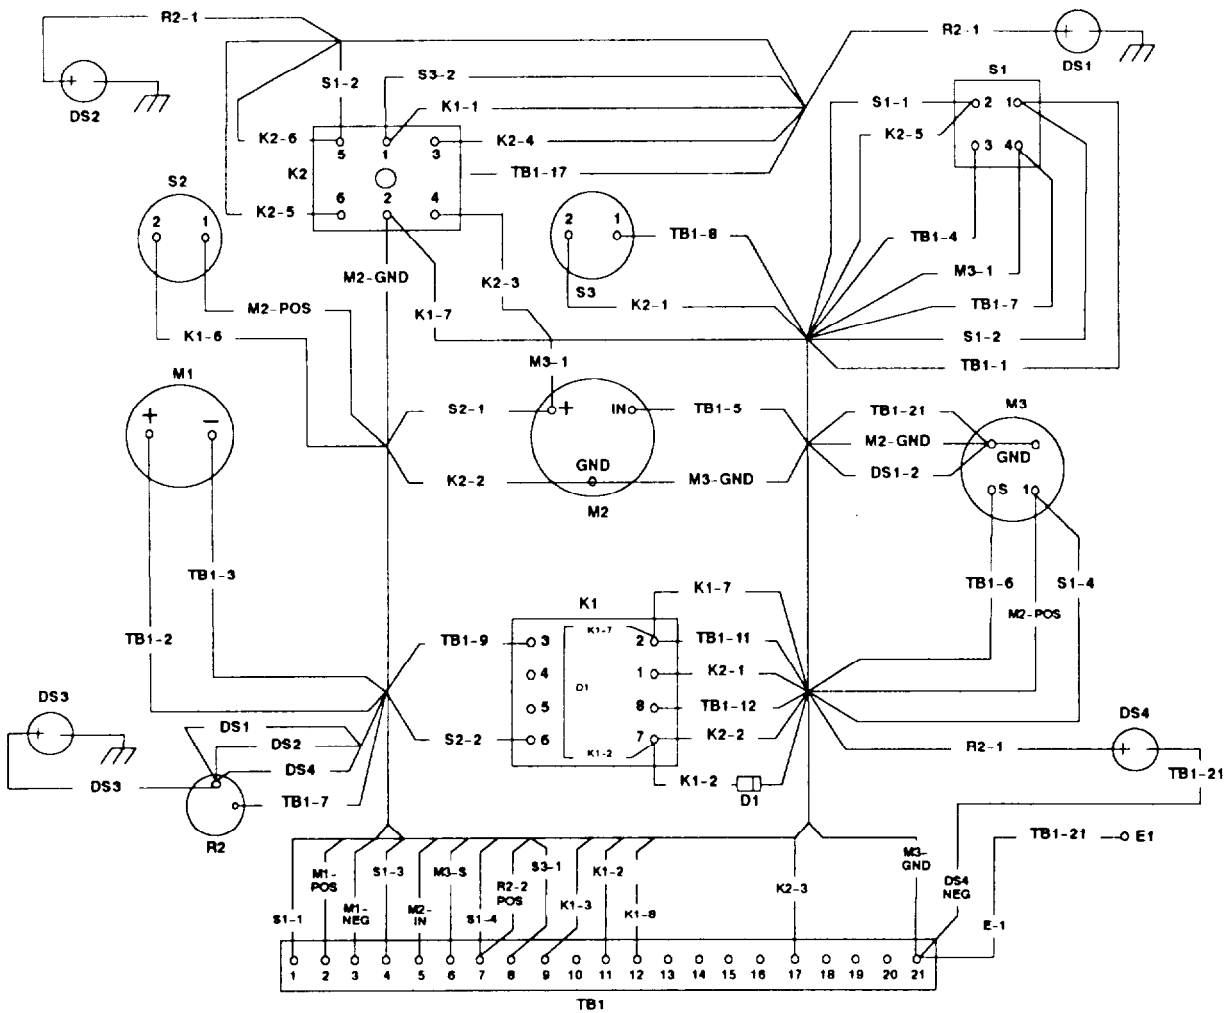

Figure 4-42.1. Control Panel Wiring Harness (Model 350 PAWN).
- a. Wiring Harness. Refer to figure 4-42.1 and check for continuity of wiring(may have to disconnect wires).
- (1) Close switch (pulled out) and check for continuity between contacts 1/4 and 2/3.
- (2) Open switch (pushed in) and check for open circuit between contacts 1/4 and 2/3.